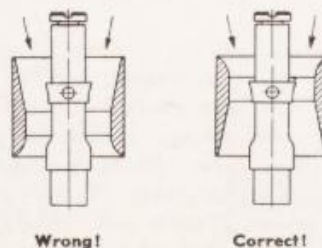

Fig. B-4. In installing venturi, be sure restriction of inner diameter is at the top.
- 7 - Install venturi. Be sure that restriction of inner diameter (waist) of venturi is at the top, Fig. B-4.